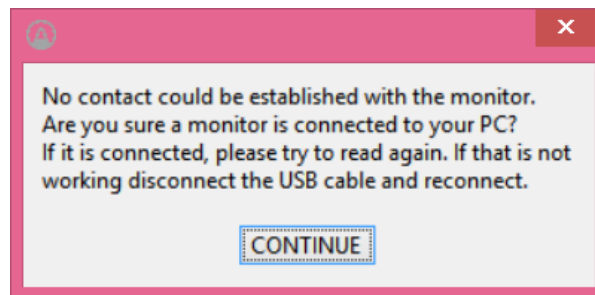

Figure 4-6: Error message displaying connection cannot be established with the Monitor
*The data takes approximately 20 sec to upload from the PRO monitor. If unfortunately the contact between monitor and PC breaks during data upload an error message as shown in the following Figure 4-6. In this case try press continue and fix your connection*